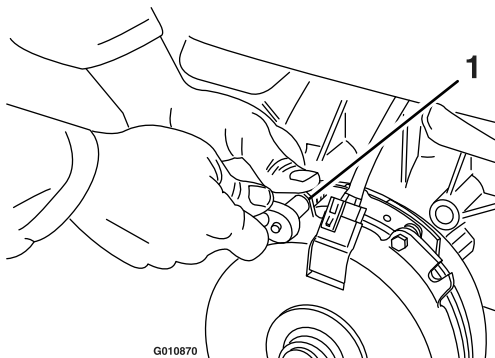

**Figure 81**
3. Using an air compressor, blow out any debris from under the brake pole and around the brake spacers (Figure 81).